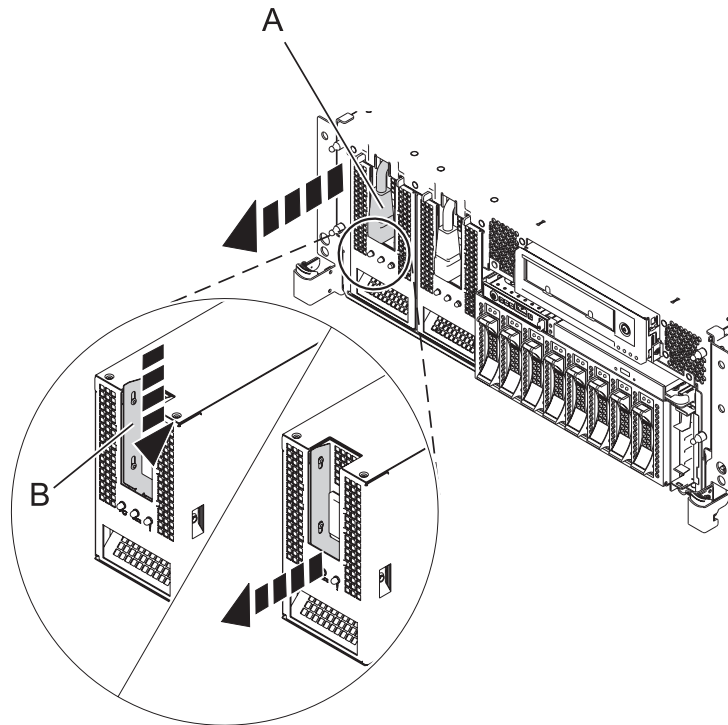

Figure 2. Removing the power supply
5. Disconnect the power cable (A) from the front of the power supply as shown in Figure 2.
7. Press down on the locking latch (B) as shown in Figure 2. Using the locking handle, pull the power supply out of the system.